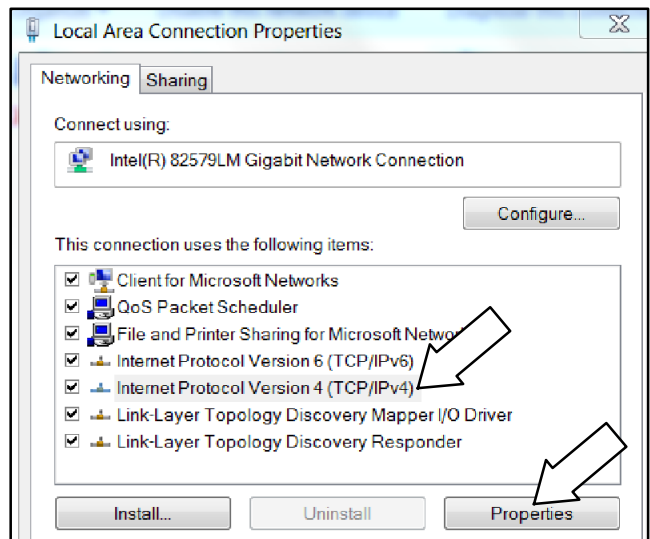

Figure 23 Select Internet Protocol Version 4
14.5 Select Internet Protocol Version 4. See Figure 23.